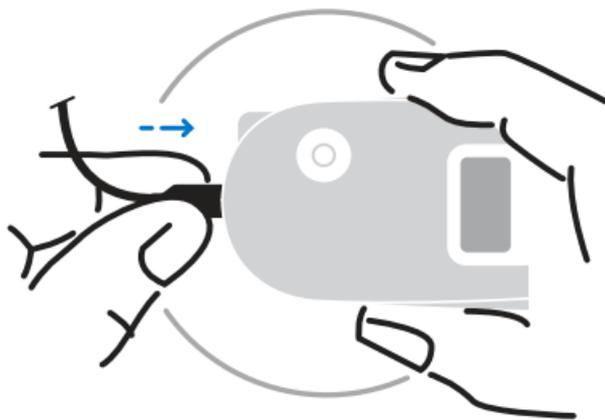

fig.1
- 1 Remove the actuator from its packaging and connect the actuator plug into the driver socket, ensuring the plug is correctly orientated in relation to the socket, and make sure the plug is fully inserted and secured. (*fig. 1*)